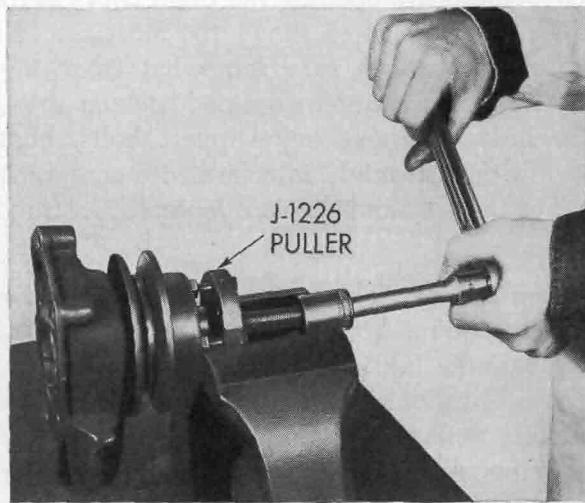

FIG. 14-16. Using puller to pull fan pulley from pump shaft. (*Chevrolet Motor Division of General Motors Corporation*)
- b. Then use special puller to pull fan pulley from pump shaft (Fig. 14-16). It is very important to use this tool correctly in order not to damage the pulley, shaft, or bearing. Note particularly that the puller plate should be square with the pulley face.